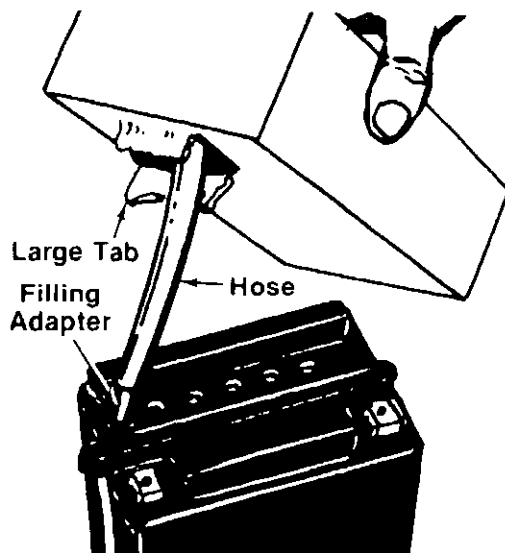

FIGURE 3.
6. Pull out hose from package and hold upright. Squeeze hose forcing all acid back into package. Cut off tip of hose and insert filling adapter. See figure 3.
- ← 7. Fill each cell to upper level marked on front of battery. Replace fill caps on battery. See figure 3.